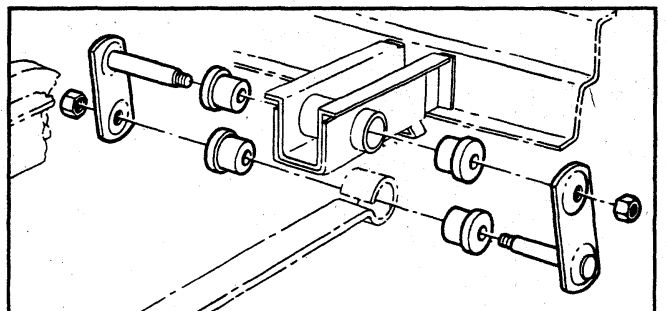

Fig. 21—Rear Spring Shackle Exploded View—All Except Station Wagon (Chevy II)
- a. All except Station Wagons (fig. 21).